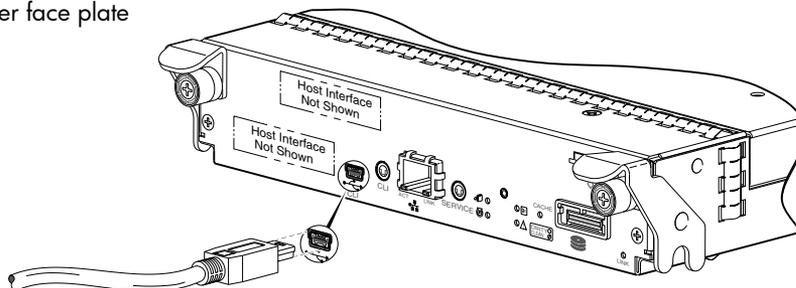

Figure 21 Connecting a USB cable to the CLI port
2. Use the provided USB cable to connect controller A to a USB port on a host computer. The USB mini 5 male connector plugs into the CLI port as shown in Figure 21 (generic 4000 Series controller module shown).
If communication with the CLI is disrupted when using an out-of-band cable connection, communication can sometimes be restored by disconnecting and reattaching the mini-USB CLI cable as described in step 2 and Figure 21 on page 34.